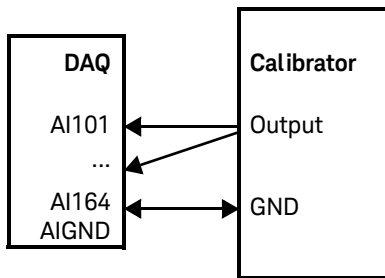

Figure 2-5 The analog input and calibrator connection
- 3 Connect the DAQ device to the PC with mini-B type USB cable. The connected DAQ device will be visible in the **Instrument I/O on this PC** panel as illustrated in Figure 2-5.
- 4 Select the DAQ device that you wish to send the SCPI commands to and then click the **Interactive IO** icon on the toolbar to launch the Keysight Interactive IO. See Figure 2-5.